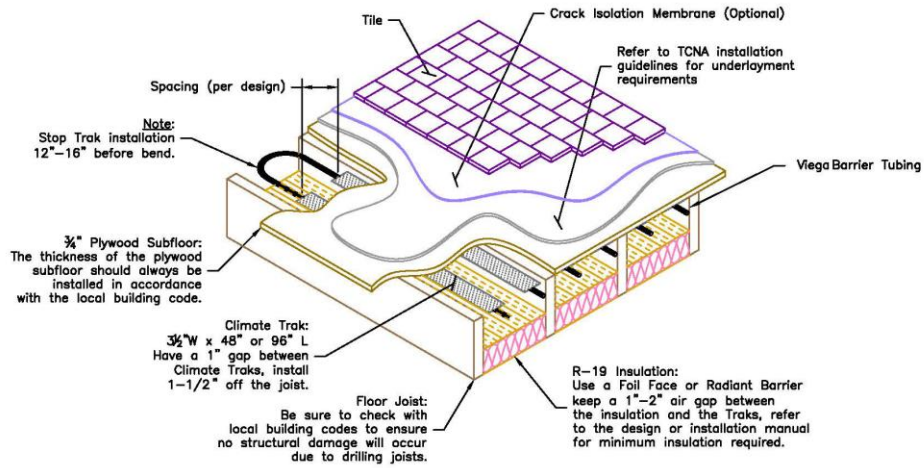

Figure 3 Climate Trak – Joist Tile
**Climate Trak:** Climate Traks are extruded aluminum panels designed to be secured to the underside of the subfloor. Climate Traks are mounted at spacing dependent on the radiant design and are compatible with 3/8" (9.5 mm) or 1/2" (12.7 mm) Viega Barrier tubing. After attachment to the subfloor, tubing is inserted into the channel. Insulation is installed beneath Climate Trak in the joist cavity leaving a 1-2" space between the insulation and the Climate Traks. See Figure 3.